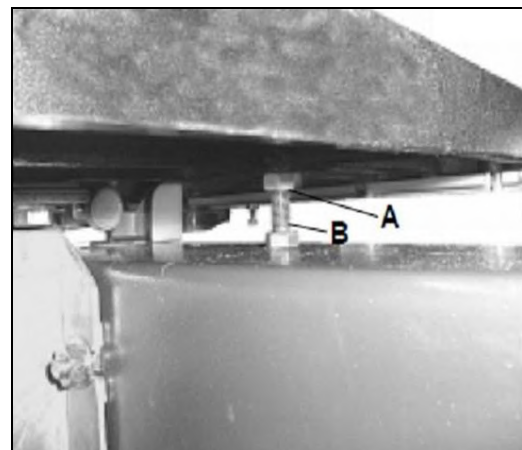

Fig 11
Løsn møtrikken (A, Fig 11), juster skruen (B).